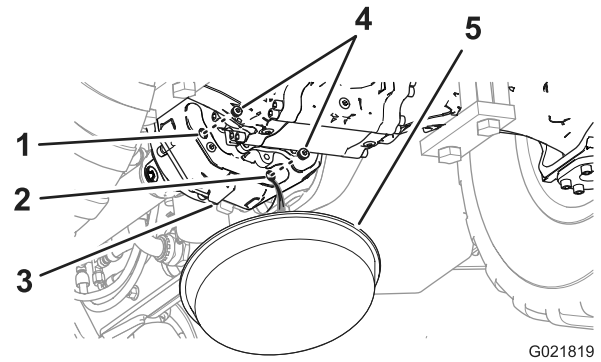

Figure 71
2. Remove the plugs from the drain port and the sight port in the transmission housing (Figure 71).
1. Place a drain pan under the back side of the transmission housing (Figure 71).